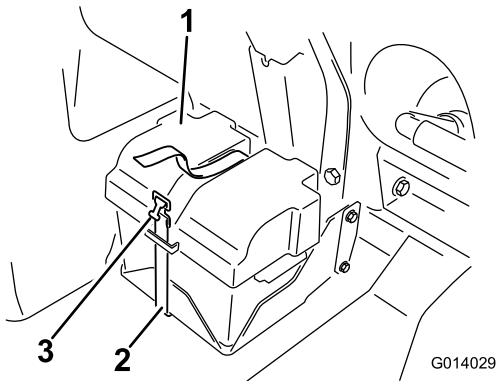

Figure 75
2. Remove the cover on the battery (Figure 75) and disconnect the negative (black) ground cable from the battery post.
4. Install the battery cover and secure it with the strap removed previously (Figure 75).